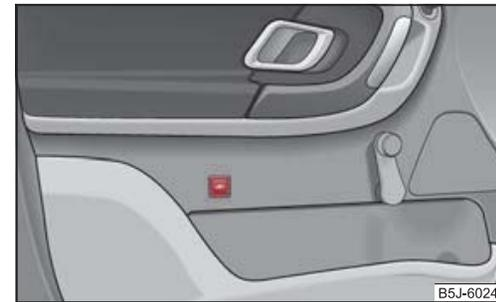

Fig. 31 Button for interior monitor and towing protection monitoring
- Press the button  on the driver door ⇒ page 40, fig. 31.